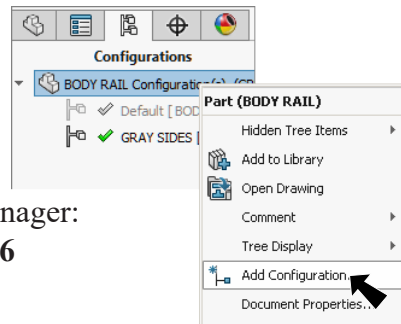

Fig. 165
Step 7. Right click **BODY RAIL Configuration(s)** in the Configuration Manager and click **Add Configuration** from menu, **Fig. 165**.